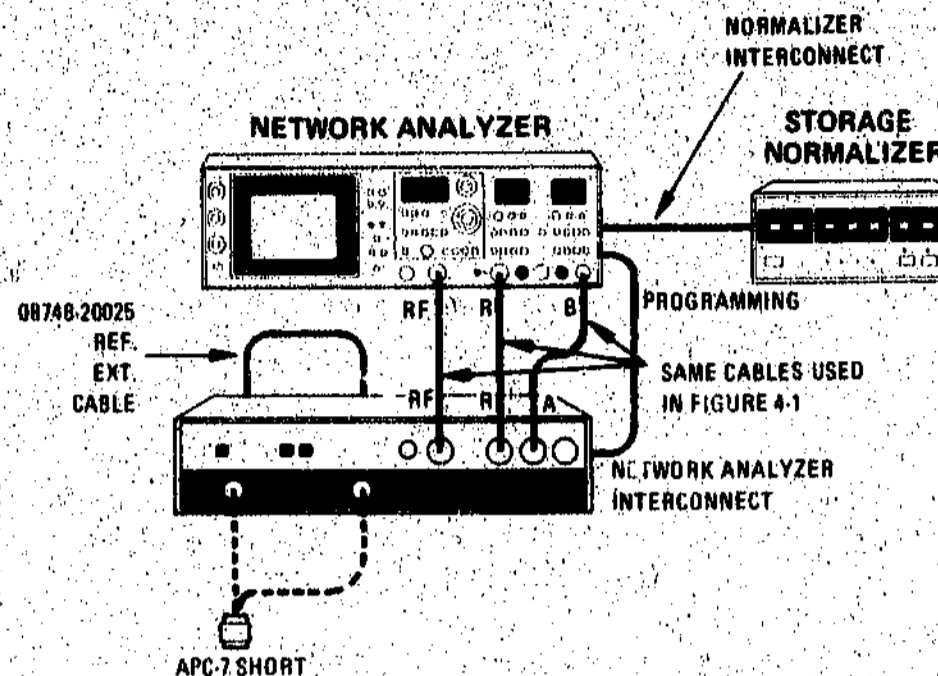

Figure 4-3. Frequency Response Reflection Test Setup
- l. Disconnect the RF cable from the 8748A B output, and connect to A output as shown in Figure 4-3 (Do not disconnect the cables from the 8754A). Disconnect the 11857A cables from the 8748A. Connect the 11565A Short to PORT 1. Change the REFERENCE EXTENSION cable on the back of the 8748A to 08748-20020.